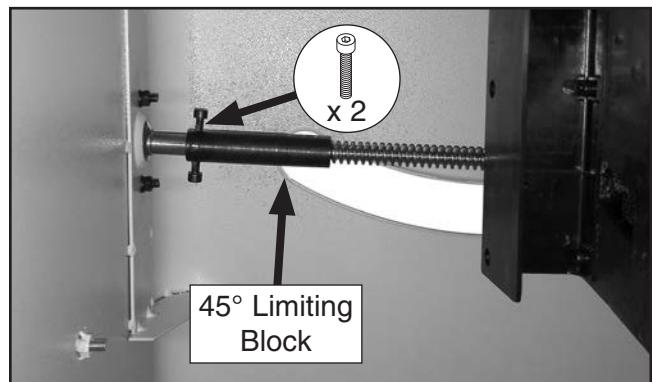

Figure 115. Location of 45° limiting block.
5. Loosen (2) M5-.8 x 10 cap screws in 45° limiting block (see **Figure 115**).